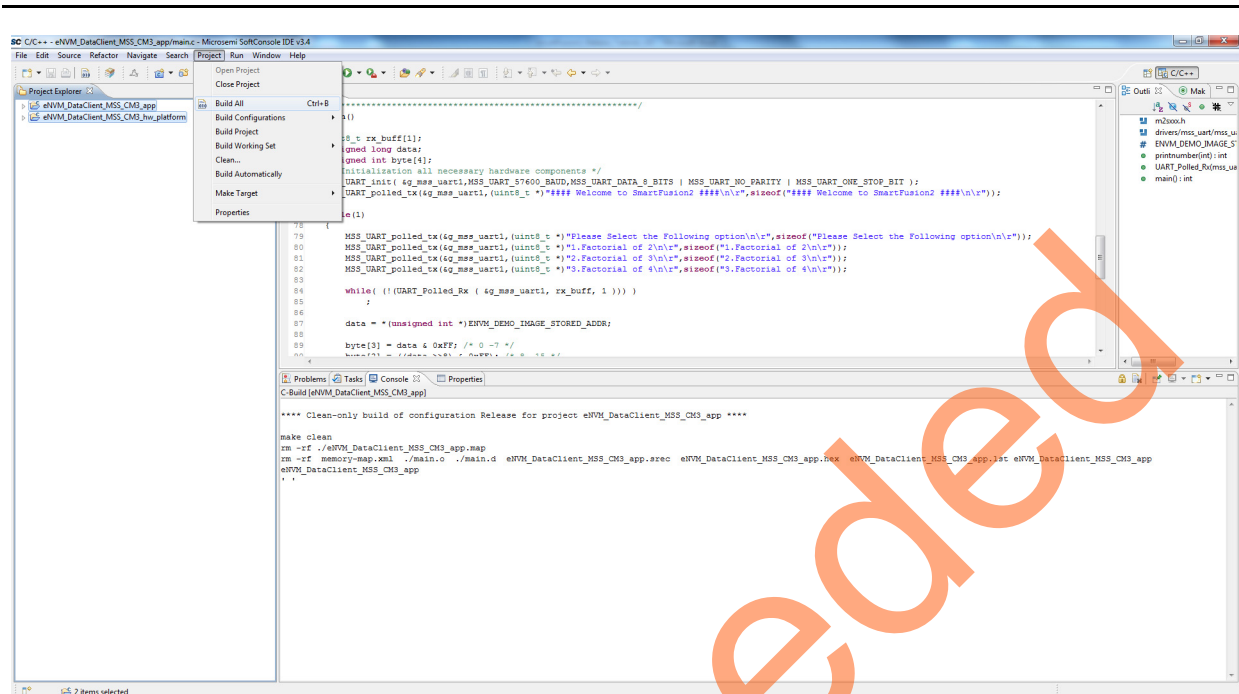

Figure 37 • Build All
6. Go to **Project > Build All** and build the project as shown in Figure 37.